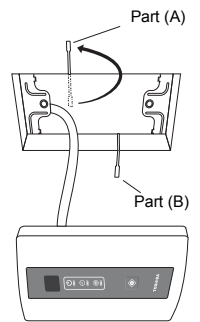

Fig.4
3. Use bracket parts (A) and (B) to securely grip the ceiling material. (Fig. 4)